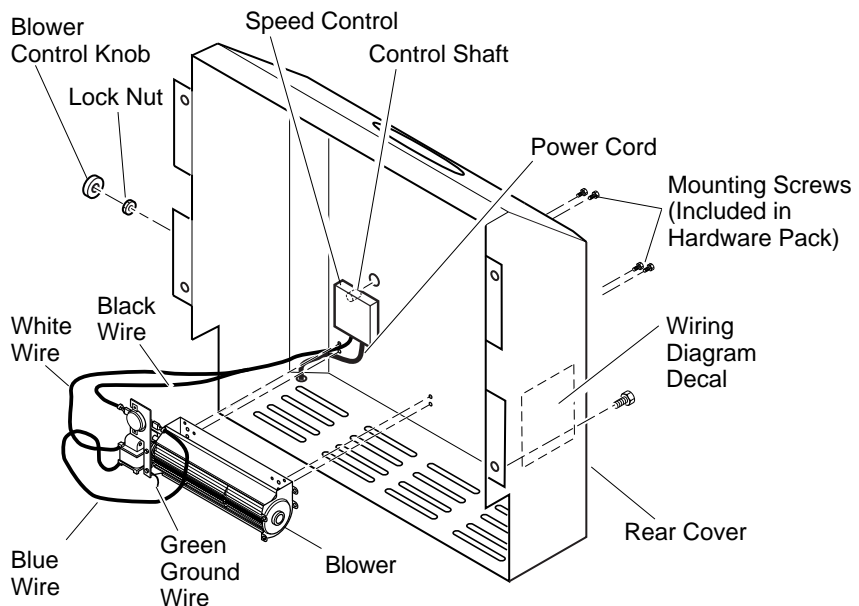

Figure 16 - Installing Optional Blower Accessory (Thermostat Model DA3610T Shown)
1. Align the holes in the top mounting tabs of blower with holes in wall of rear cover (see Figure 16). Using the 4 screws provided, mount blower and tighten screws securely.
3. Place speed control on left inside of rear cover and push the plastic control shaft through opening (see Figure 16).
4. While supporting speed control, secure control shaft with lock nut by pushing and turning lock nut with pliers clockwise until tight against the side of rear cover. Place control knob provided onto shaft (see Figure 16).